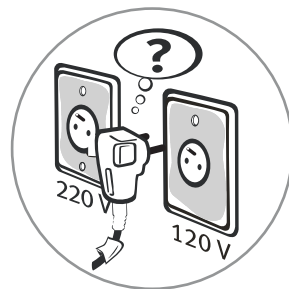

Fig. 1
1. Plug the water dispenser directly into the socket. The unit requires proper grounding and the correct voltage (as technical information specified on page 13 of this manual).(Fig. 1)